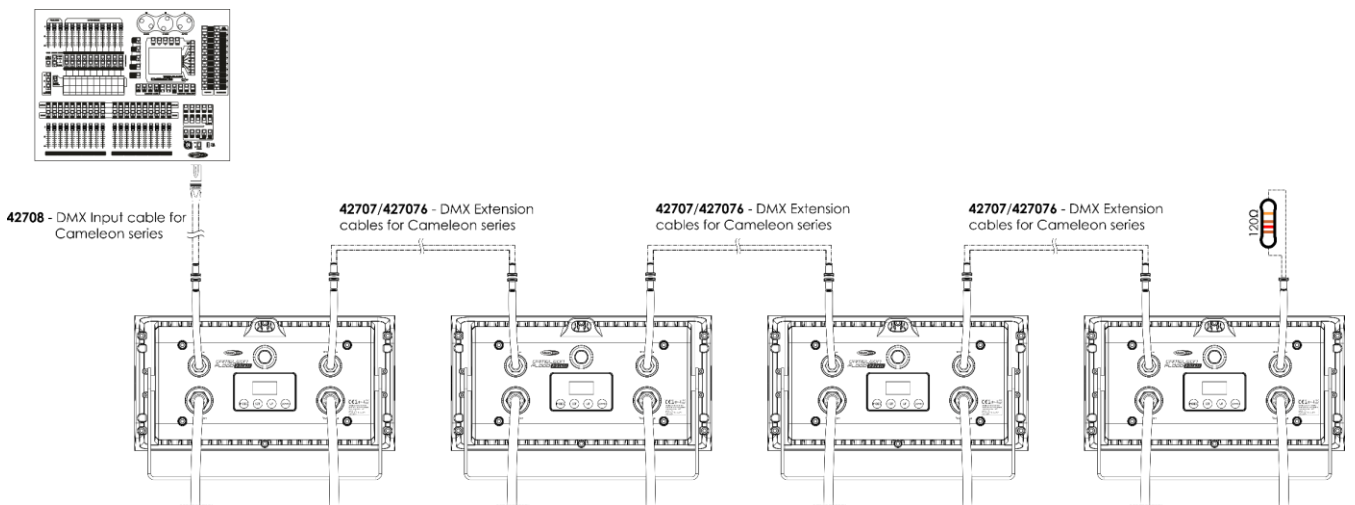

Fig. 04
- 04) Link the units as shown in fig. 04. Connect a light controller to the first unit's DMX "in" socket, using the 42708 – DMX input cable. Connect the first unit's "out" socket with the second unit's "in" socket, using the 42707/427076– DMX Extension cable, Link the second and third units using the 42707/427076 – DMX Extension cable.